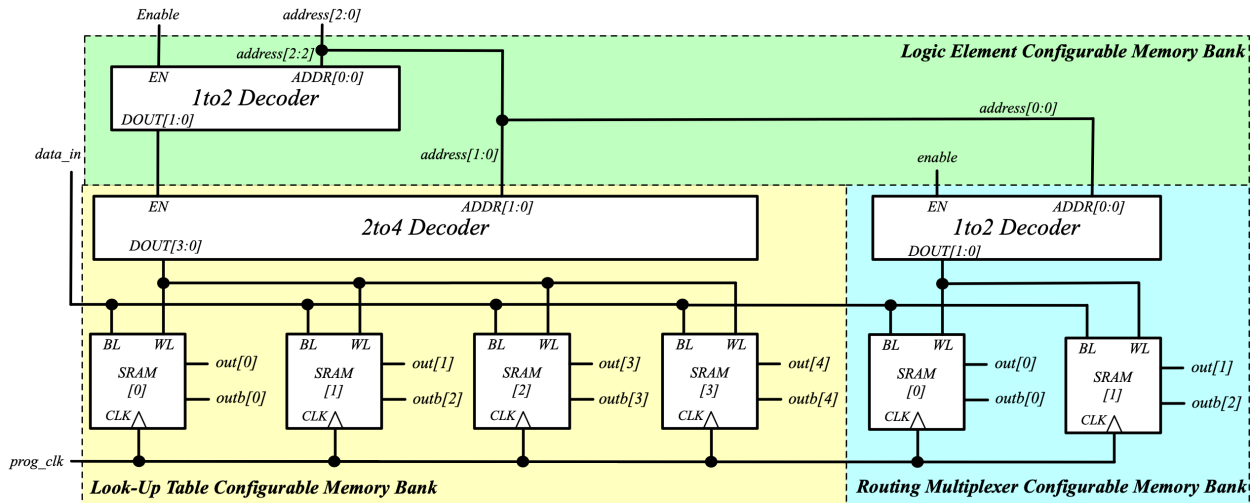

Fig. 7.8: Example of a frame-based memory organization inside a Logic Element
Through frame-based configuration protocol, each memory cell can be accessed with a unique address given to decoders. Fig. 7.8 illustrates an example about how the configurable memories are organized inside a Logic Element (LE) shown in Fig. 5.1. The decoder inside the LE will enable the decoders of the Look-Up Table (LUT) and the routing multiplexer, based on the given address at address[2:2]. When the decoder of sub block, e.g., the LUT, is enabled, each memory cell can be accessed through the address[1:0] and the data to write is provided at data_in.